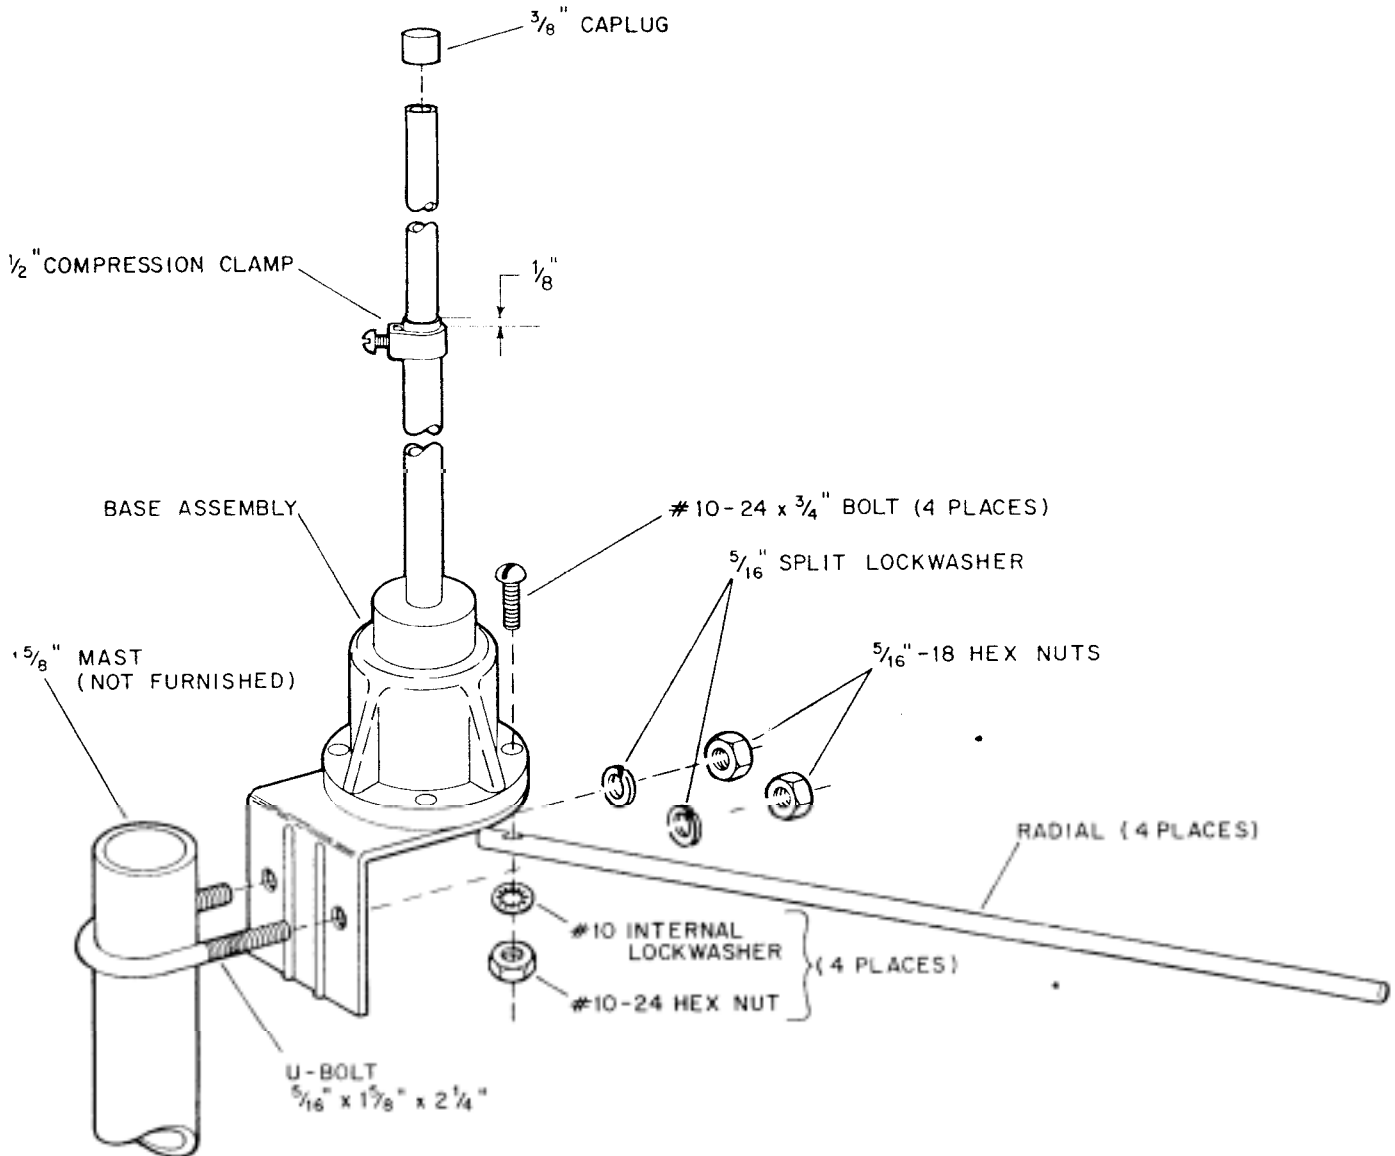

Figure 2
Remove the two (2) screws that are placed through the base insulator assembly to hold it to the bracket and install the four radials as shown in Figure 2.
Assemble the 1/2" compression clamp and slide it into position on the 7/16" tube. See Figures 2 and 3.